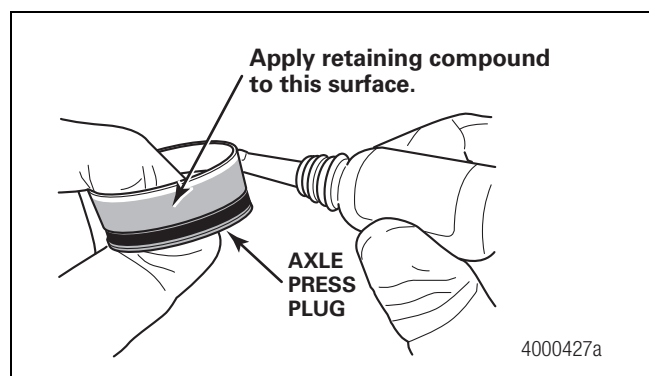

Figure 2.19
14. Put on a new pair of latex gloves. Apply only the approved retaining compound included in the installation kit evenly to the **OUTSIDE** diameter of the axle press plug. The installation kit contains enough retaining compound for four wheel ends. Divide the material equally among the wheel ends. The axle press plug must be installed within 10 minutes of applying the retaining compound to ensure that the compound hardens correctly. Loctite® 620, 3M RT20 and PermaBond HH 0040 are all approved retaining compounds. Figure 2.19.